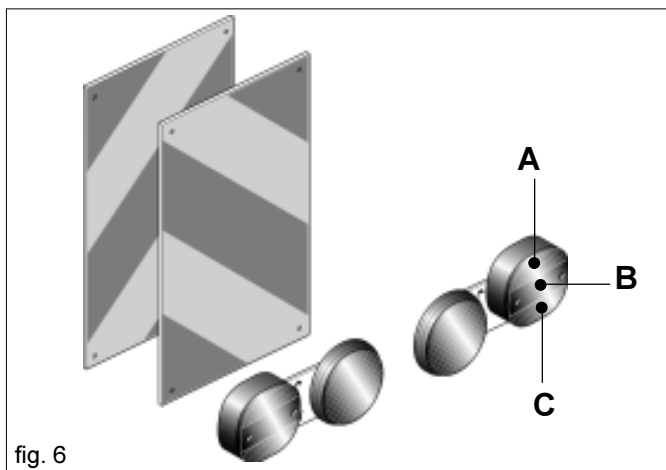

fig. 6
- 37) When the dimensions of carried or partially-carried equipment conceal the tractor's signalling and lighting devices, these must also be installed on the equipment itself, in conformity with regulations of the highway code of the country involved. When in operation make sure that the lighting system is in perfect working order. It is also important to remember that the correct signalling sequence of the headlights includes (Fig. 6):